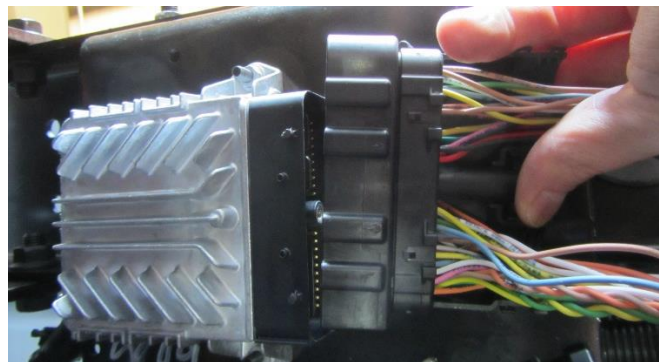
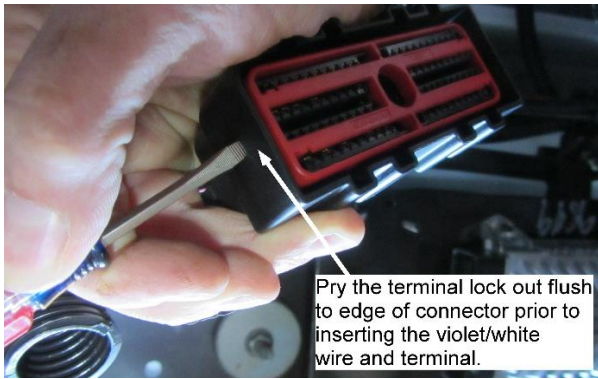

Figure 47: Remove TCM Connector
Figure 48: Pry the terminal lock out flush to connector
17. Remove the connector from the TCM and use a screwdriver to pry the terminal lock out. See Figure 47 and Figure 48.